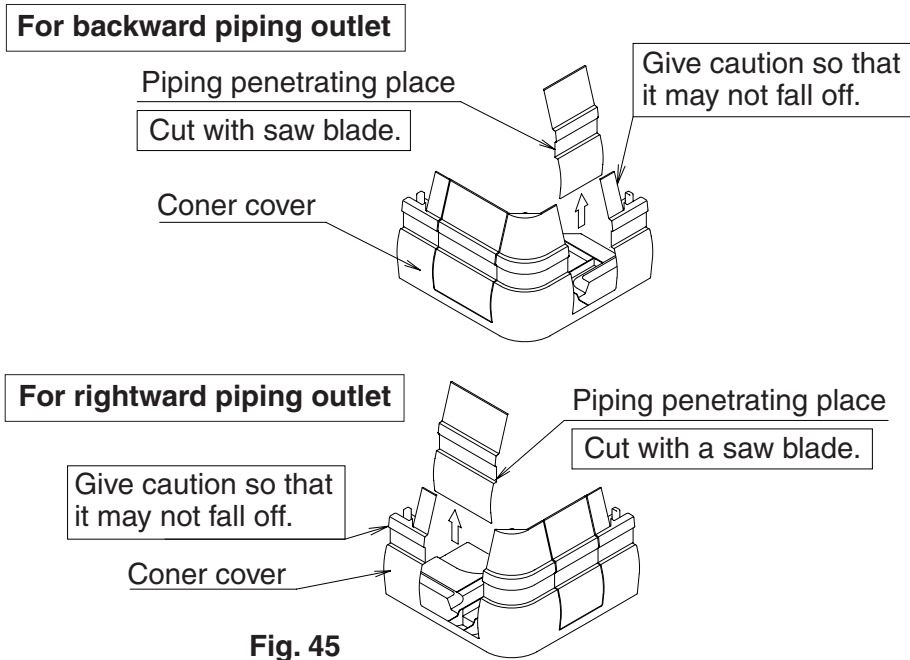

Fig. 45
- For backward and rightward piping outlet, cut the corner cover as shown in **Fig. 45** and remove it. (When cutting, give caution and mount on the indoor unit so that the parts for the corner cover may not fall off.)